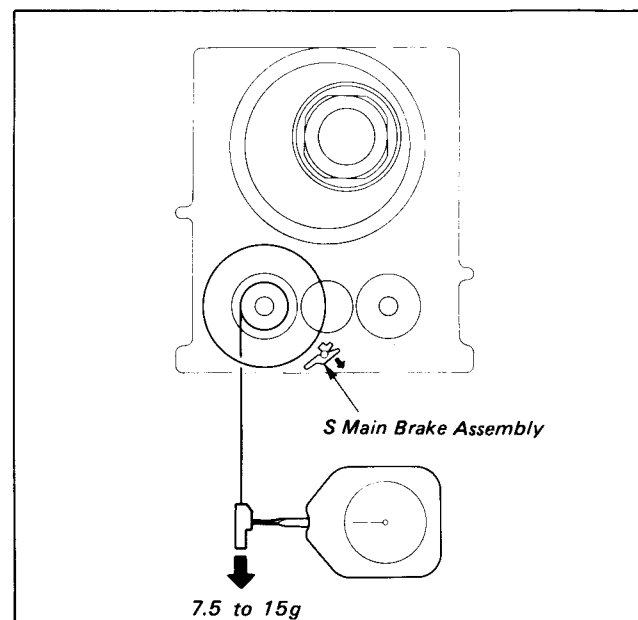

Fig. 8-66.
- 4) Pull the dial tension gauge (Ref. No. J-6) toward the arrow and check that the value satisfies the required value. (See Fig. 8-66.)